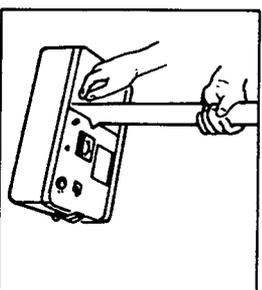

FIGURE 3a
1. Place the transmitter on its back on the ground or on an elevated surface and connect the handle, at the end with one aluminium knob, to the transmitter as shown in Figure 3a